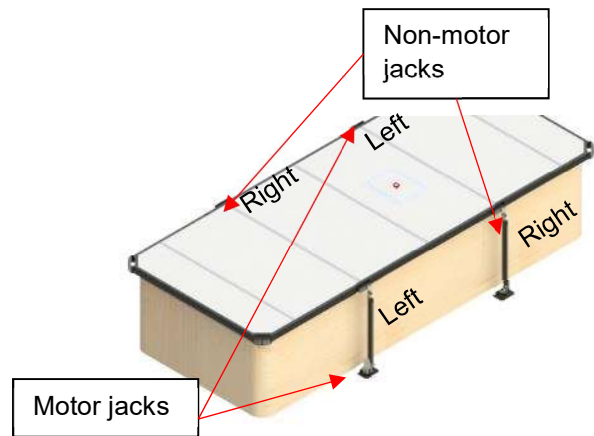

Figure 92
- 4) Position the jacks in their locations. Motorized jacks should always be on the left side when looking at the swim spa. (Figure 92)